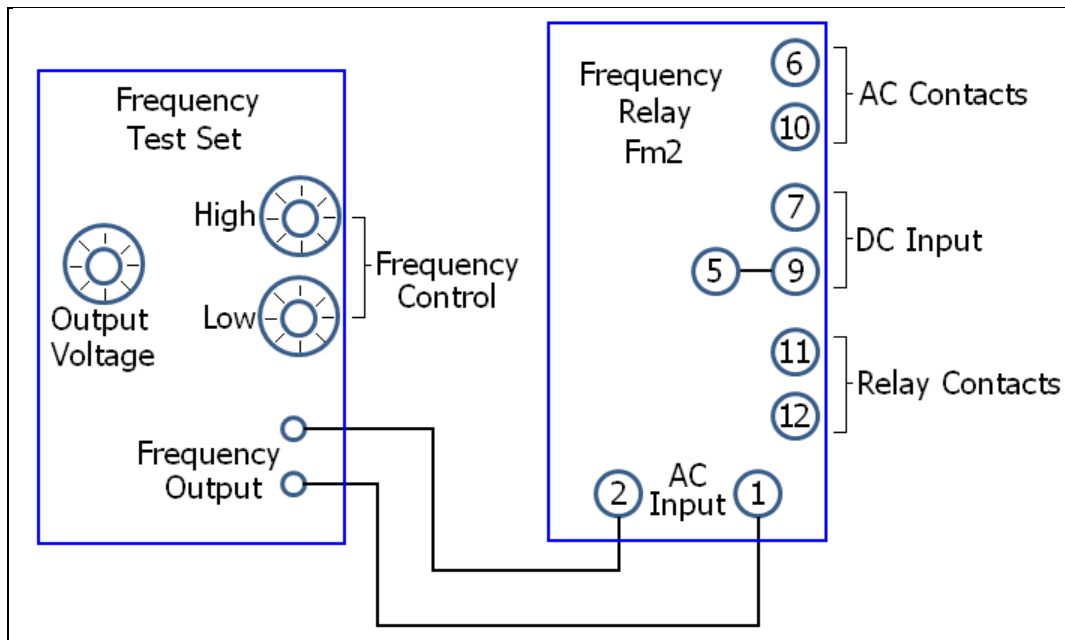

Fig. 1-2 Connection between Frequency Relay and Frequency Test Set
2. Connect the frequency test set to the relay as shown in Fig. 1-2.